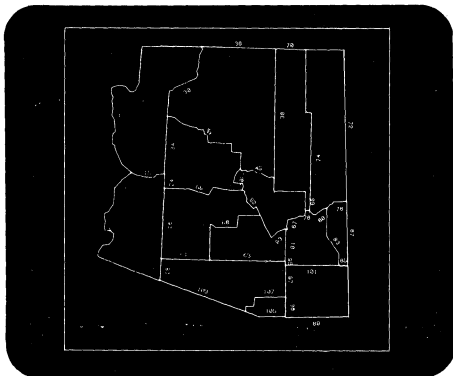

Figure 1. A map of the counties of Arizona encoded as polylines. The numbers appearing adjacent to the lines are the object ID numbers assigned by the system.
- The map of Arizona encoded as **Polyline** objects, with two numeric attributes: **left county id** and **right county id**. (See figure 1.) A separate host program could then use the coordinate data and the attributes to reconstruct the counties as polygons.